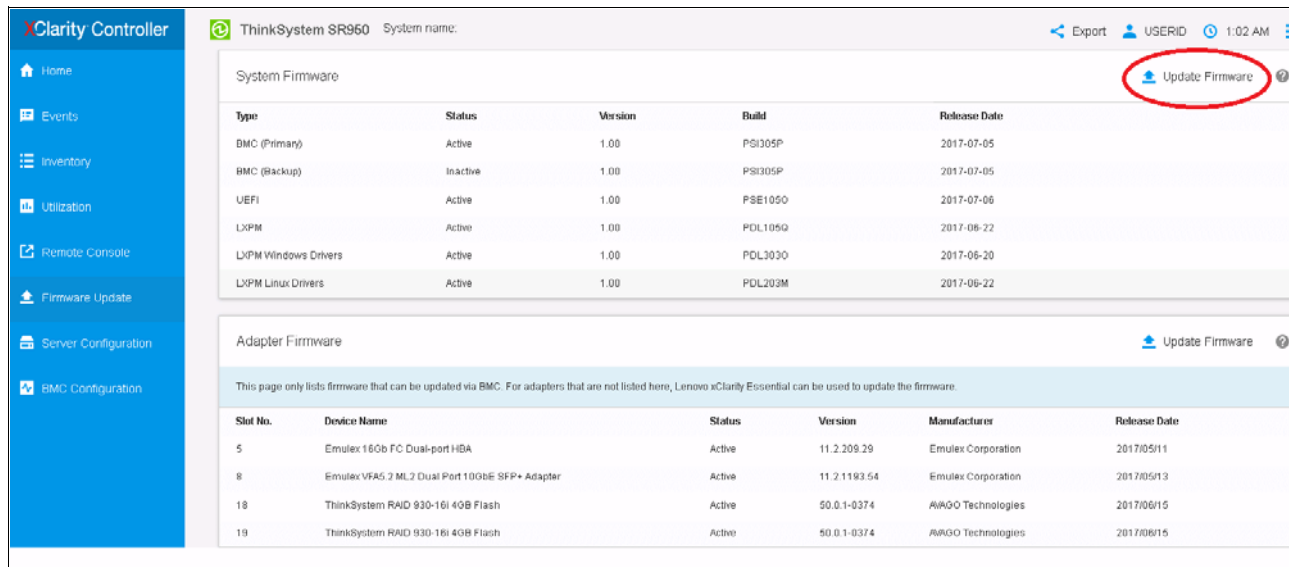
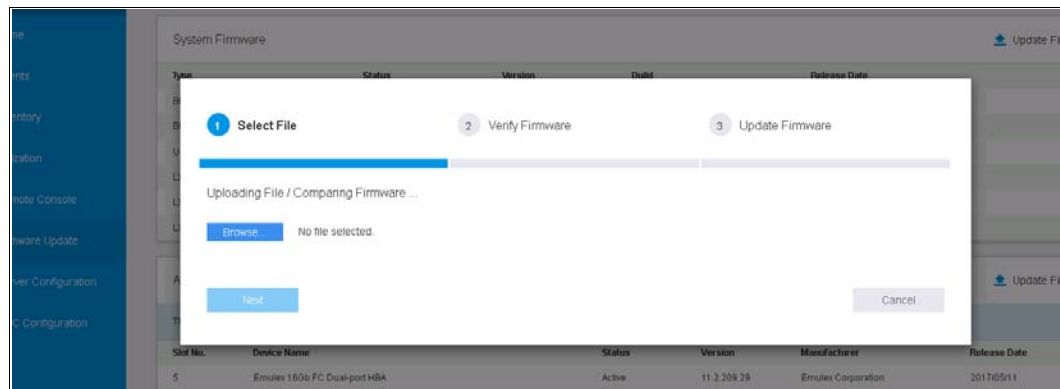

Figure 5-32 XCC firmware update screen
Figure 5-33 Firmware update selection
Figure 5-32 on page 148 shows the firmware update screen with firmware information on the system and its adapters.
1. Click **Update Firmware** (as highlighted in Figure 5-32). The Update Server Firmware window opens as shown in Figure 5-33.